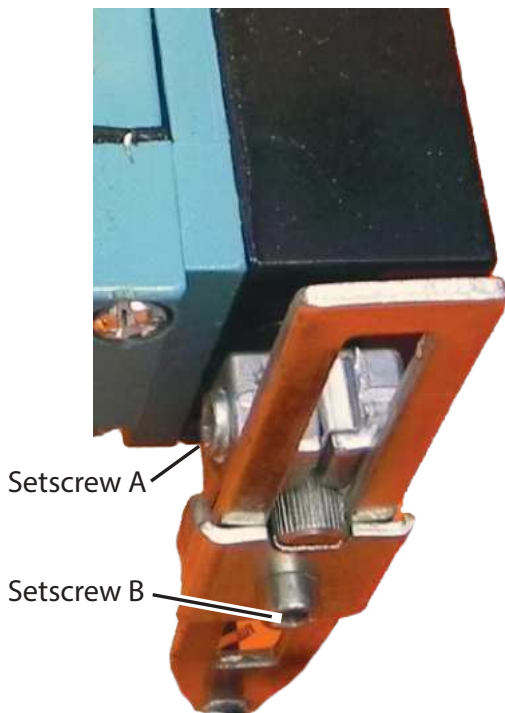

Figure 5-11. Actuator Arm - Setscrew A and B
2. Loosen Setscrew A on the actuator arm. (Figure 5-11)
1. Loosen Setscrew B. **(Figure 5-11)**